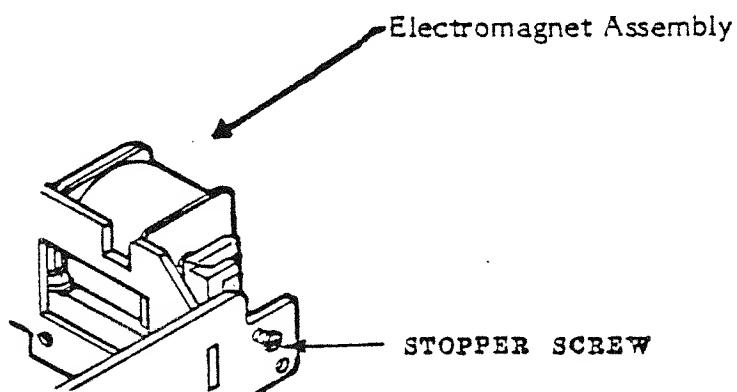

Figure 6-4. Pen and Paper Platen Adjustment
- Adjust the gap between the ball-point pen and paper platen by turning the stopper screw (see Figure 6-4). The gap should be within the range of 0.6-0.7 mm. (For reference: turning the screw counter-clockwise widens the gap.)